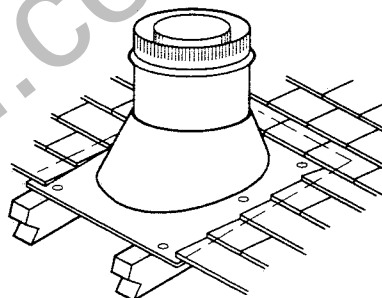

Figure 33
I. Extend the vent sections through the roof structure. Install the roof flashing over the vent section and position such that the vent column rises vertically (use carpenter's level) (Figure 33). Nail along perimeter to secure flashing or adjust roofing to overlap the flashing edges at top and sides only and trim where necessary. Seal the top and both sides of the flashing with waterproof caulking.